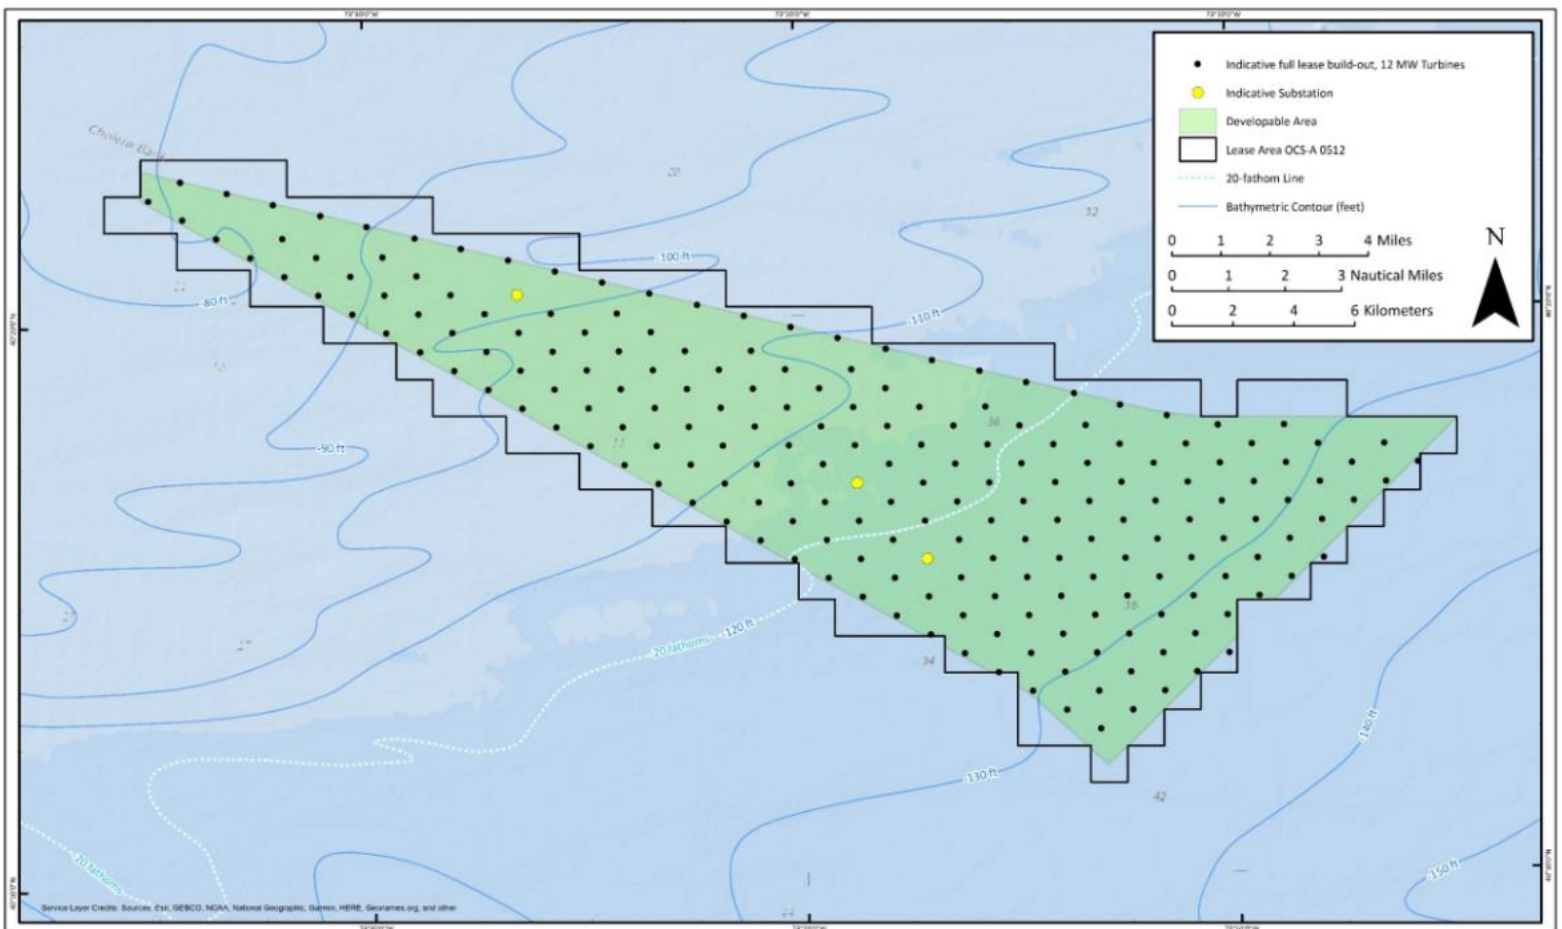

Figure 5: Indicative full Lease Area build out, three individual phases totalling 200 x 12MW wind turbines, minimum spacing 0.71 nm
- Typical tows may be made in any direction depending on catch, depth, seabed, wind and tide, but in many cases, fishermen prefer to tow along consistent depth contours (see Figure 5);